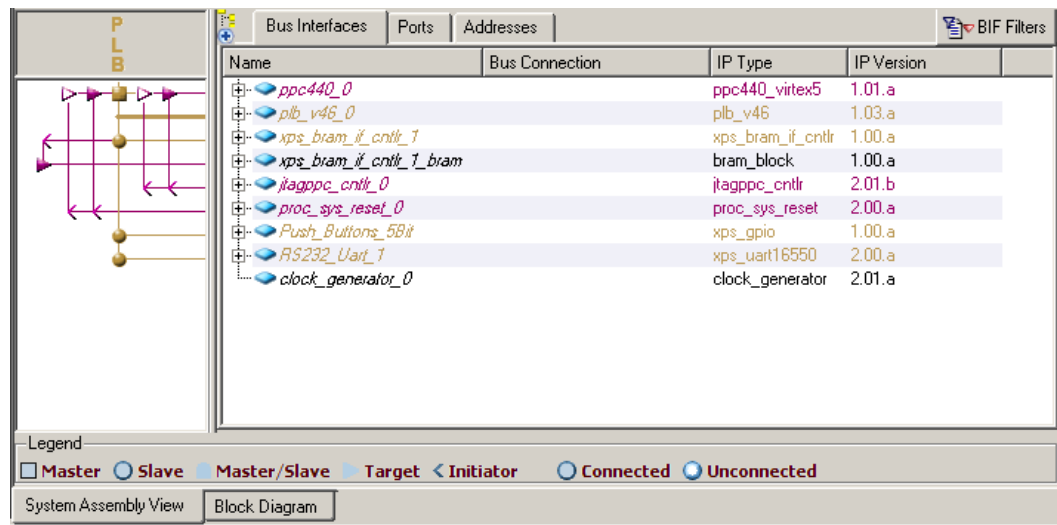

Figure 3-5: System Assembly View Contents
- c. Click the directories icon circled in Figure 3-5 to switch between the two views.
XPS provides Bus Interface, Ports, and Addresses tabs in the System Assembly View (Figure 3-5), to organize information about your design and allow you to more easily edit your hardware platform.
When you click the directory structure icon (circled in Figure 3-5), the ports are displayed either hierarchically or in a flattened, or flat, view. The flat view allows you to sort information in the System Assembly View alphanumerically by any column.
5. Click the directories icon (circled in Figure 3-5), and switch between the hierarchical and flat views.